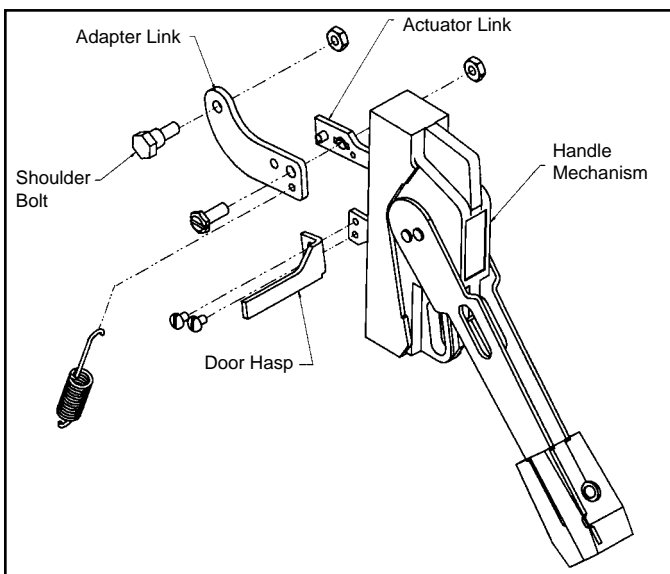

Figure 1-2 Outer Handle Mechanism Assembly
The Flex Shaft handle mechanism provides a means of externally operating the circuit breaker and can be applied to enclosures of varying heights and depths. The handle can be used with NEMA 1, 3R, and 12 enclosure applications, depending on the accessory components selected. An operating handle, flexible shaft, and mechanism are required for standard application. Eight lengths of shafts are available for use with the wide range of depths of various enclosures (3' through 10'). When selecting the length of the Flexible Shaft, ensure Minimum Bending Radius of 4 inches is maintained to operate properly. The standard method of shipment includes the mechanism preset at the factory. If minor field adjustments are required see Figure 1-2. For this publication, the term circuit breaker shall also include the molded case switch and Series C motor circuit protector (HMCP).
**See Figure 1-2 for suggested orientation. Alternate orientations may be used according to application.**